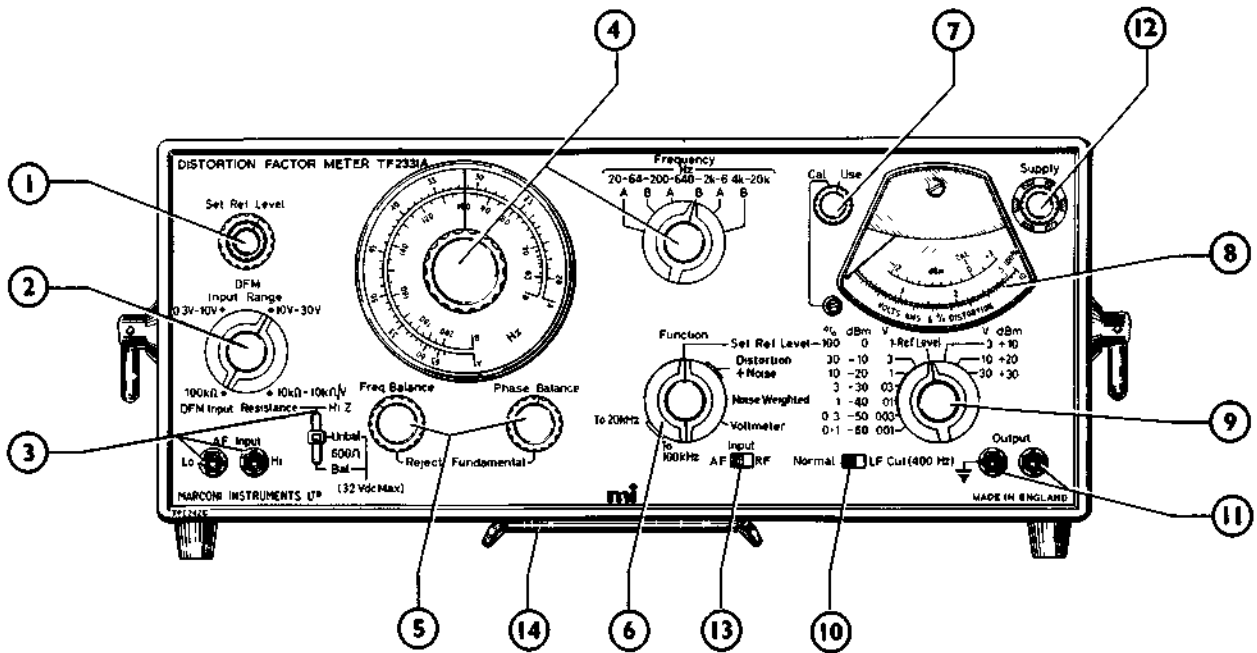

Fig. 2.1 Layout of controls
- ① **SET REF LEVEL controls** : Adjust in conjunction with (8) and (9) to bring meter reading to 100% (or to 0 dB for decibel measurements).
- ② **DFM INPUT RANGE selector** : Set to suit level of total signal at AF INPUT terminals. Other end of pointer shows Hi Z input resistance.
- ③ **AF INPUT terminals and switch** : Switch selects input impedances of 600  $\Omega$ , balanced or unbalanced, and Hi Z. For DFM measurements the input resistance at Hi Z is shown by the INPUT RANGE setting. For Voltmeter measurements Hi Z equals about 1 M $\Omega$ .
- ④ **FREQUENCY controls** : Set to reject fundamental frequency. Use A or B scale according to switch setting. Fig. 2.1 shows controls set to 1 kHz.
- ⑤ **BALANCE controls** : Adjust in turn for maximum rejection of fundamental. PHASE BALANCE is a high discrimination 10-turn potentiometer.
- ⑥ **FUNCTION selector** : Switches in fundamental rejection filter in positions 2 and 3, weighting network in position 4.
- ⑦ **CAL-USE switch** : To standardize meter for Voltmeter measurements, switch to CAL and adjust preset to bring meter to CAL mark.
- ⑧ **METER** : For DFM measurements reads distortion and/or noise relative to total signal in percentage or decibels. For Voltmeter measurements reads input level in volts, or dBm in 600  $\Omega$ .
- ⑨ **METER RANGE selector** : The three right-hand settings are for Voltmeter measurements only
- ⑩ **LF CUT switch** : Attenuates frequencies below 400 Hz to eliminate supply hum components.
- ⑪ **OUTPUT terminals** : Provide a signal from the output of the voltmeter amplifier. At meter full-scale the output is 150 mV at a nominal 1 k $\Omega$  source impedance.